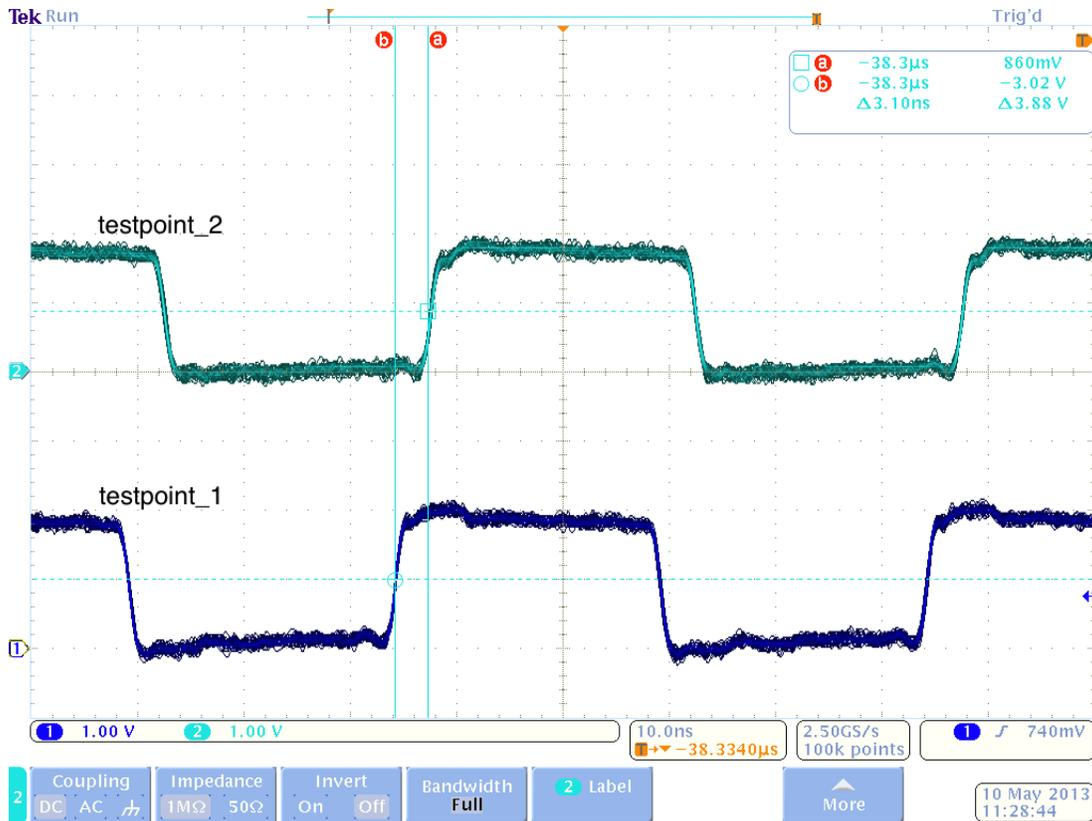

Figure 9: Double Terminated Transmission Line
6. Make a measurement with the cursors to determine amplitude of the signals at both testpoint_1 and testpoint_2. The amplitude should be about $V_{dd}/2$. The signals should look the same with the one at testpoint_2 being delayed by propagation down the coax. If your setup is correct, you should see something like Figure 9 below. Capture and include the oscilloscope picture of your measurements.